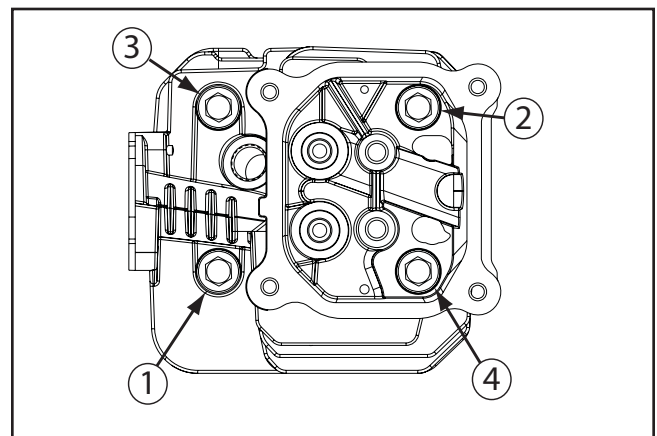

Figure 10-18. Torquing the Screws.
3. Match the two sides of the head together and finger tighten the four hex screws. See Figure 10-18.
4. Follow the torque sequence in Figure 10-18 and torque the head screws to **27.8 N·m (246 in. lb.)**.